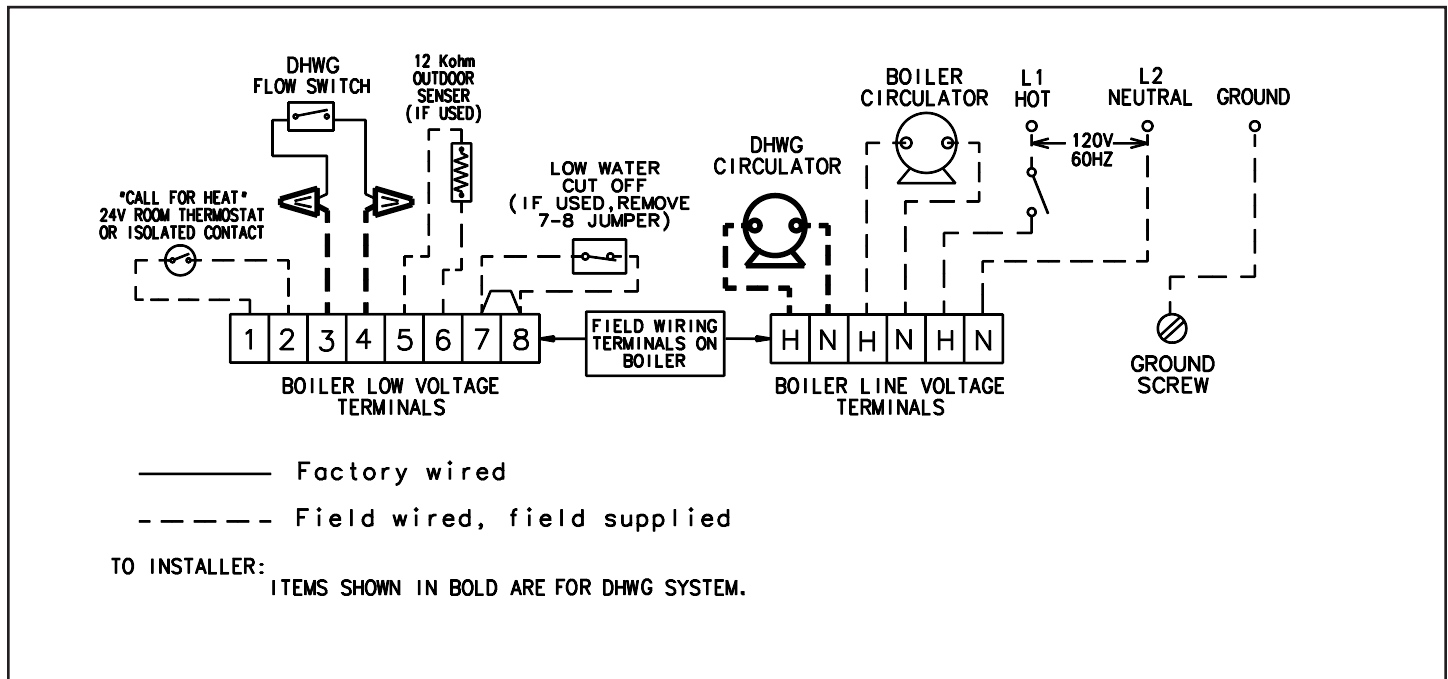

Figure 4. Wiring DHWG system to the Bobcat or Lynx boilers.
1. Make all wiring connections to the DHWG system as shown in Figure 4.